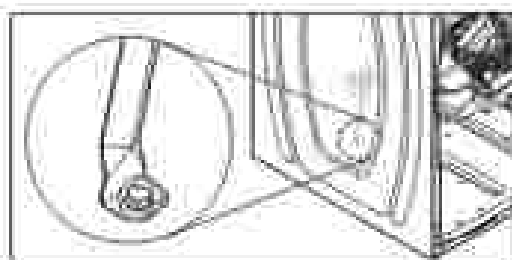
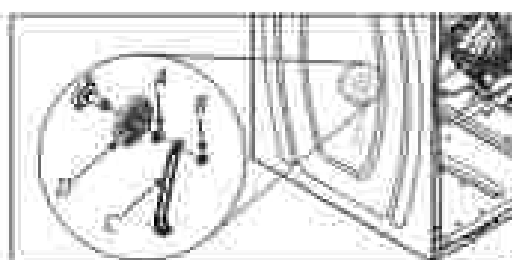

Figure 4
Figure 5
- a. Left Roller Only: Remove the support bracket screw (see Figure 4), and pin the support bracket and the round press-on nut off the end of the roller shaft (see Figure 5).